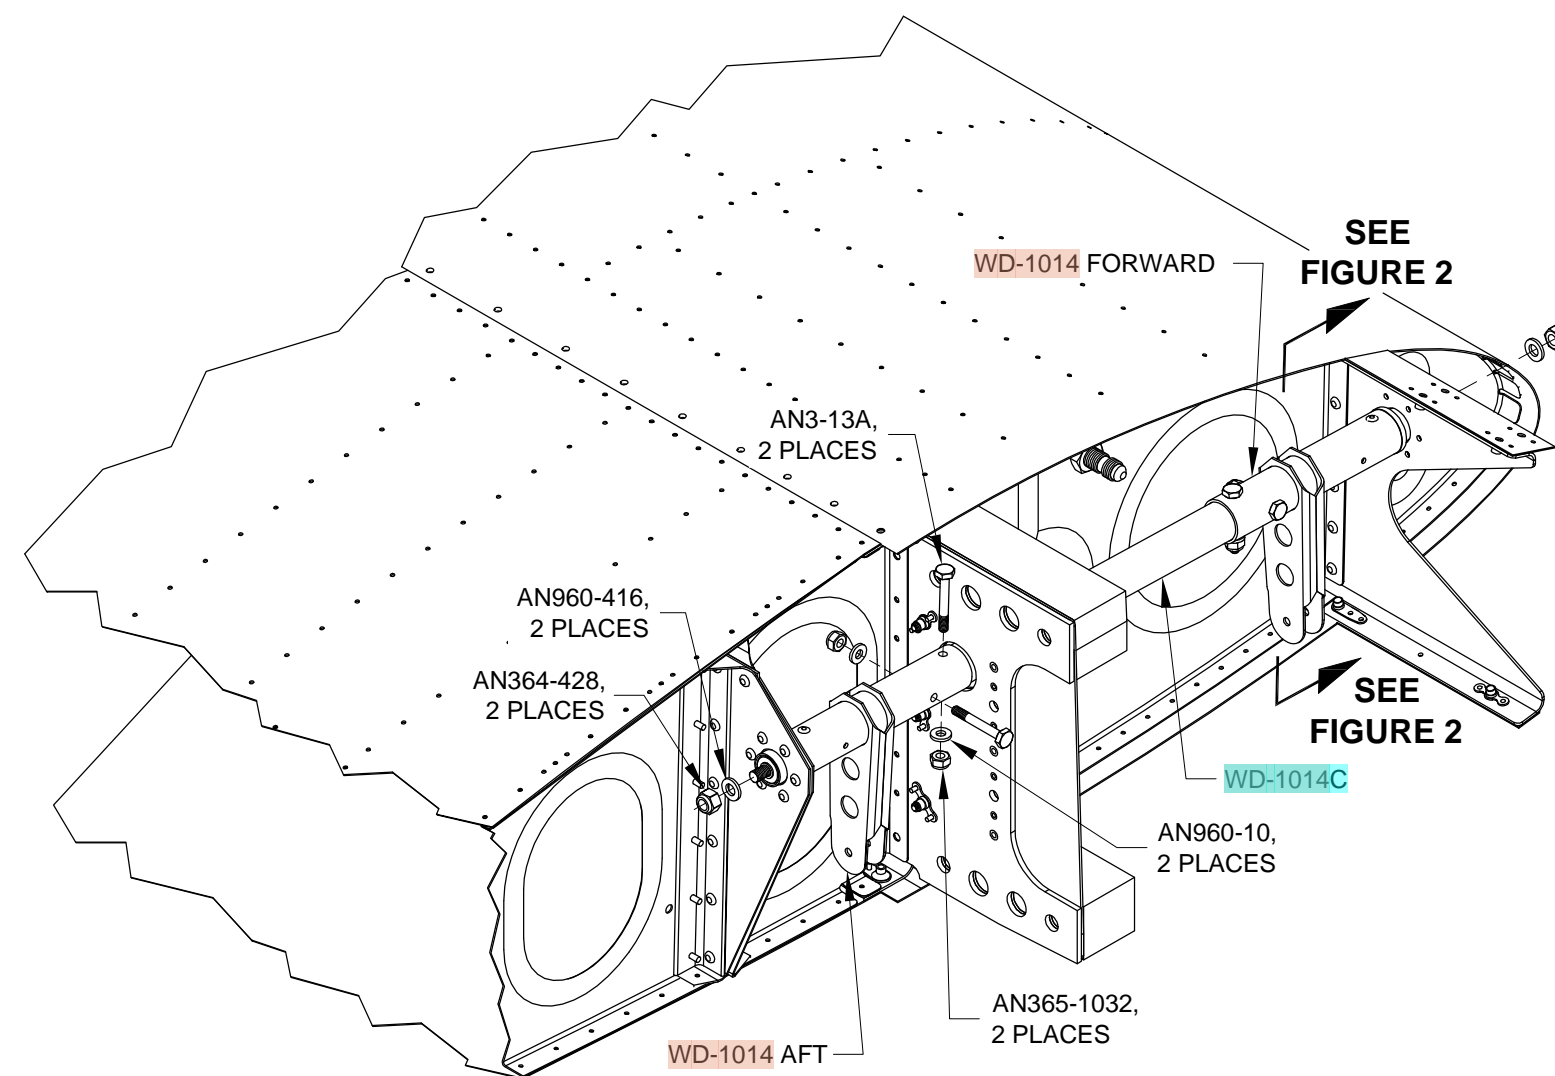

FIGURE 1:
Step 2: Angle the **WD-1014C** Torque Tube Collar down as it extends aft through the hole in the spar web and slip the WD-1014 AFT Aft Torque Tube Subassembly over the torque tube collar. Engage the **WD-1014** AFT Aft Torque Tube Subassembly and the torque tube collar far enough to allow the threaded ends of the torque tube subassemblies to be inserted into the flanged bearings riveted into the wing structure. Disengage the aft torque tube subassembly and torque tube collar slightly as the threaded ends of the torque tube subassemblies are inserted into the bearings. See Figure 1.
Step 3: Install washers and nuts on the **WD-1014** FORWARD and WD-1014 AFT Torque Tube Subassemblies as shown in Figure 1.
Install bolts, washers, and nuts as shown in Figure 1 to attach the aft torque tube subassembly to the torque tube collar.